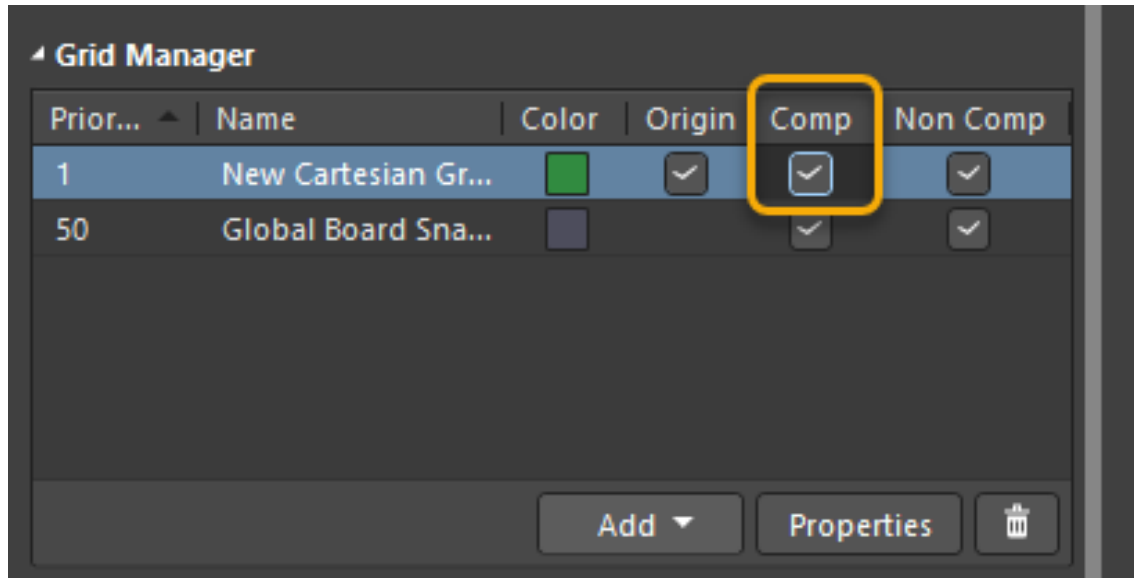

Figure 8. Enabling the *Comp* checkbox to be able to place components on the new grid
27. Open the *Properties* panel and enable the **Comp** checkbox for the **New Cartesian Grid** as highlighted in Figure 8. This will allow us to place components on that grid.